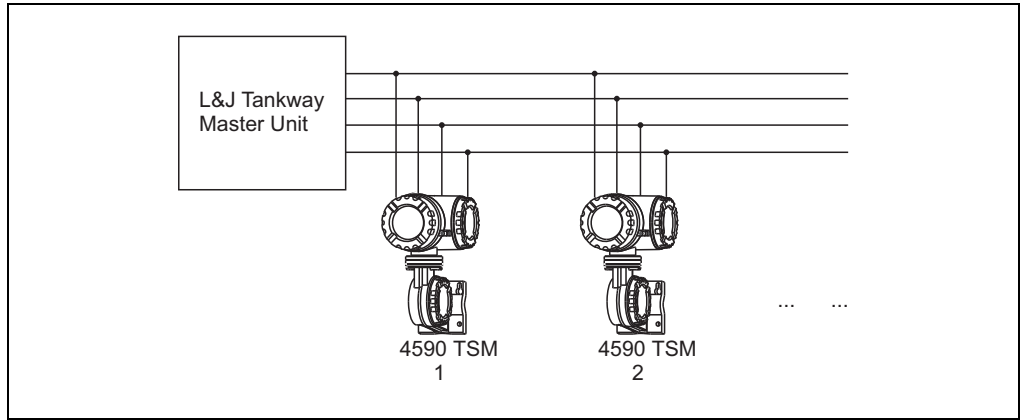

Figure 3-2: Standard topology for L&J Protocol
- Connect the gauges in parallel as shown in Figure 3-2.